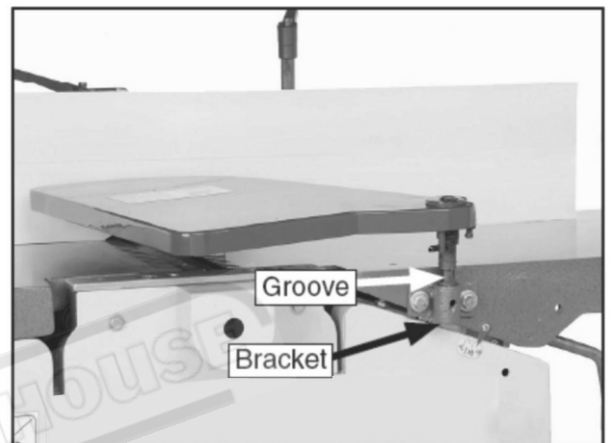

Figure 10. Installing cutterhead guard.
1. Remove the shaft lock knob and insert the cutterhead guard shaft into the bracket hole as shown in **Figure 10**.
3. thread the lock knob into the bracket so the threads fit into the shaft groove (**Figure 10**).